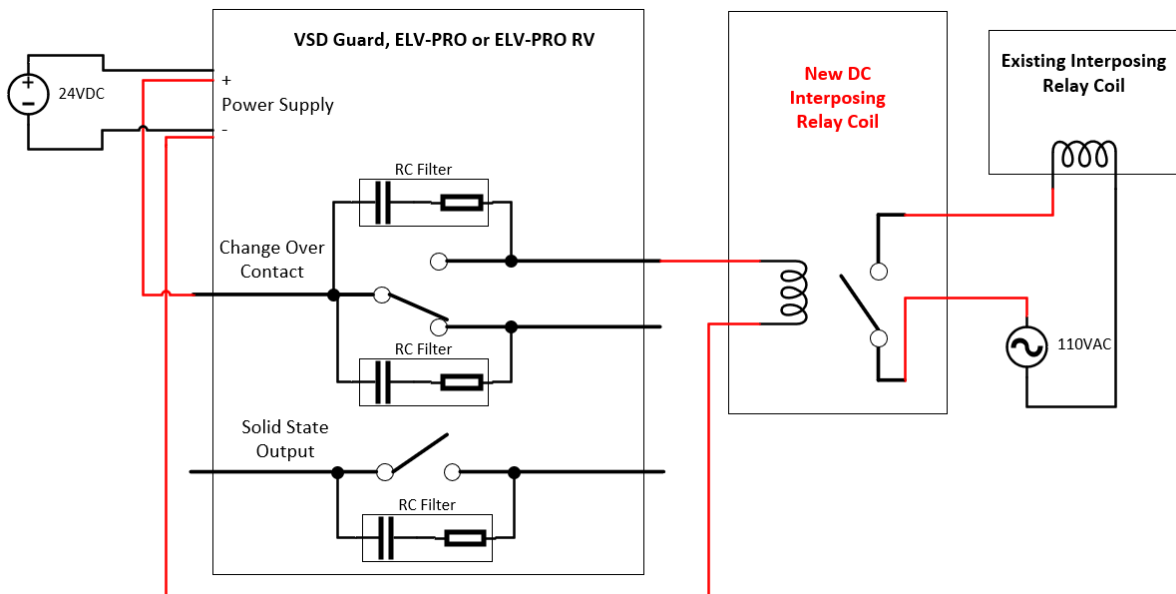

Figure 5: Use of new DC interposing relay to circumvent vulnerability. Note extended trip time.
3. Introduce a new DC interposing relay so isolate the existing AC circuit from the relay contacts. See Figure 5. Note however that this approach will increase tripping times due to the sequential relay logic. The increased tripping time increases the touch potential hazard due to extended exposure times.